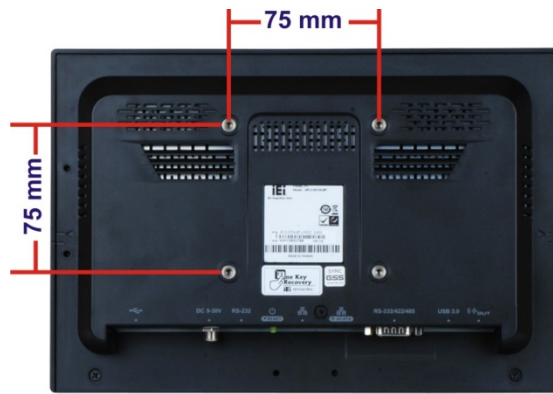
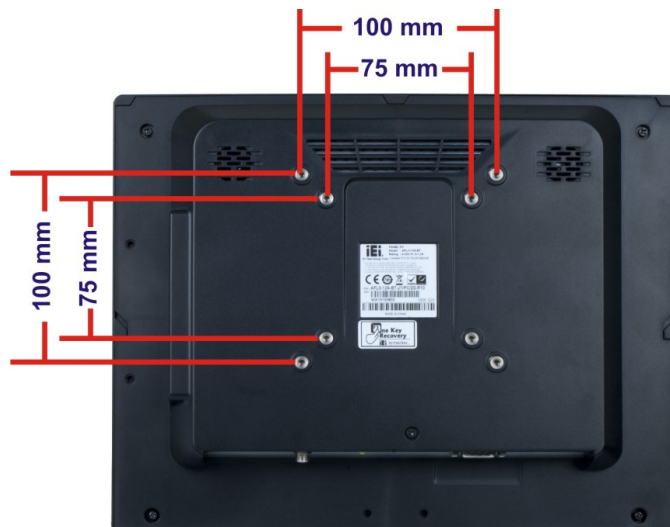

Figure 3-28: Arm Mounting Retention Screw Holes (10.1”)
Figure 3-29: Arm Mounting Retention Screw Holes (12.1” & 15.6”)
Step 3: Align the retention screw holes on the mounting arm interface with those in the flat bezel panel PC (**Figure 3-28** and **Figure 3-29**).